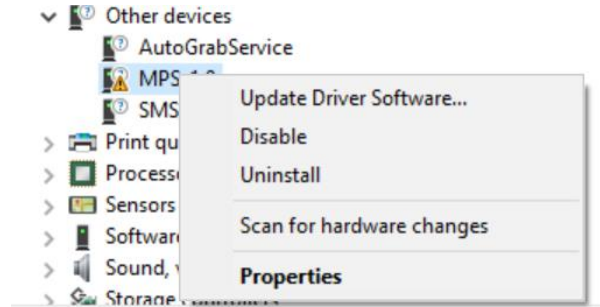

Figure 12: Updating the Driver Software
1. Open the Device Manager and select “Update Driver Software” (see Figure 12).